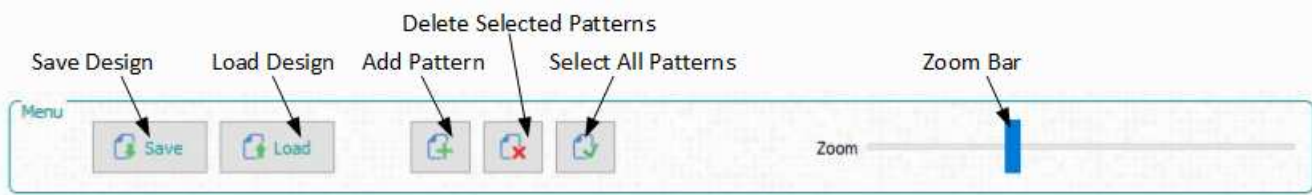

**Figure 3-4. Pattern Mode Design Panel**
Click the *Pattern Mode* button at the top of the GUI to display the *Pattern Mode* panel as shown in Figure 3-4.
2. Select *Pattern On-The-Fly Mode* from the *Operating Mode* group box, and then click the *Pattern Design* button so that the large black panel is displayed as shown in Figure 3-4.